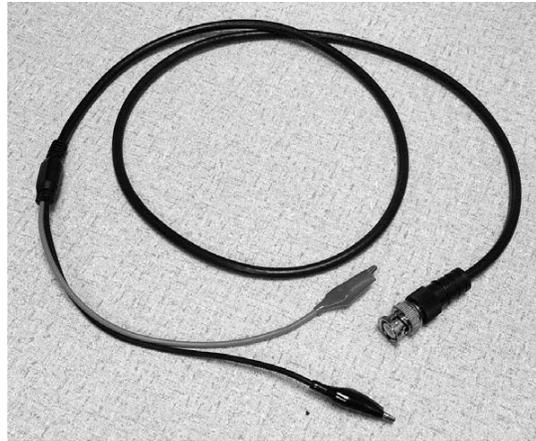

Figure 1-6 BNC-to-Alligator cable
2. Find a coaxial cable having a BNC connector on one end and two alligator clips on the other (Figure 1-6)